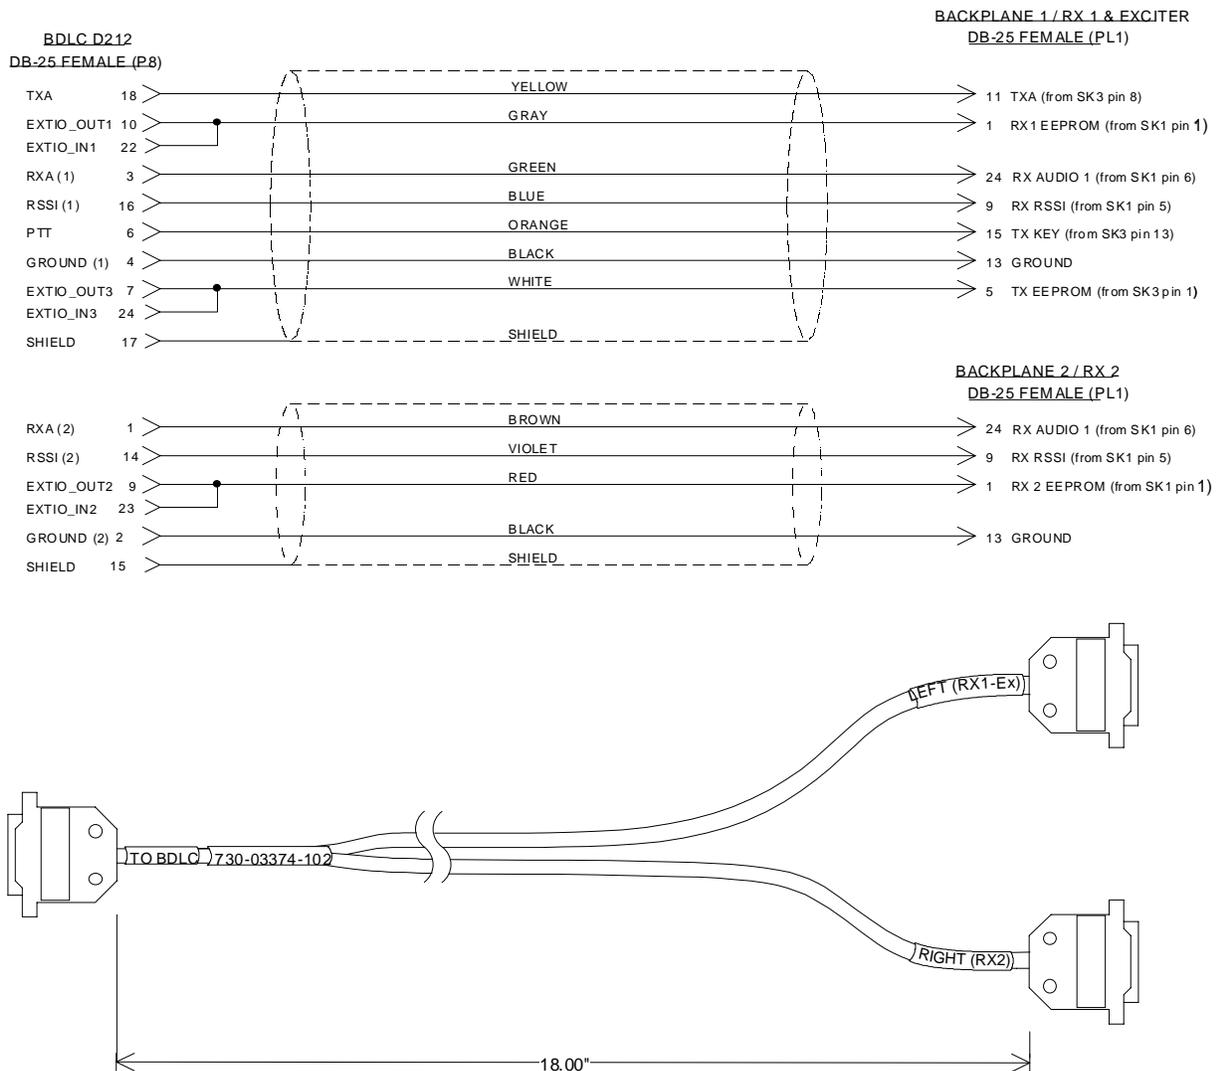

Figure 15 - BDL C^{PD} Y cable and pinout
- EXT RADIO/TEST - connects to the Radio assembly (see Figure 15)